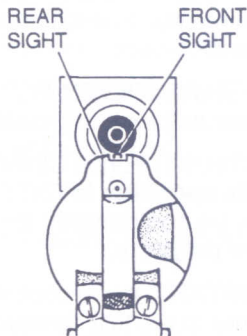

FIGURE 7—COLT SINGLE ACTION
4. Take aim. (Aim by aligning target with front and rear sights. See Figure 7. Then focus on the front sight).